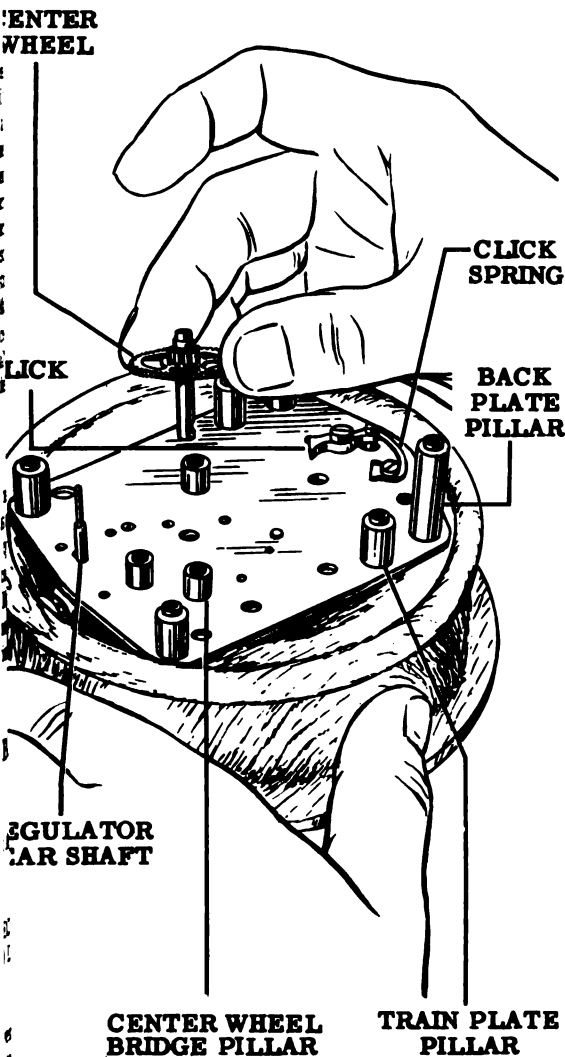
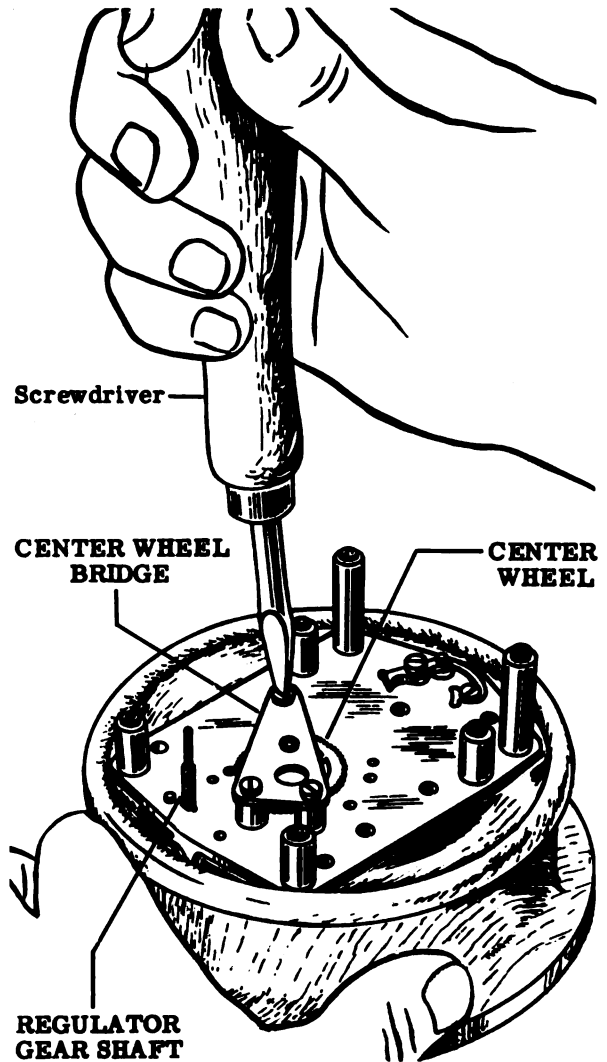

Figure 86
Figure 87
1. Place the front plate on the work block (Tool No. 1B) with the pillars facing up. Already mounted on the front plate should be the pillars, the click, the click spring, the regulator bracket, the regulator index wheel and the regulator gear. Replace any of these parts that are missing. See Fig. 86.
3. Place the center wheel in its position as shown in Fig. 86 on the front plate. Put on the center wheel bridge as shown in Fig. 87 and fasten it down with the three screws, using the special collar (Tool No. 13A) on the end of an automatic screwdriver to speed up the work and to prevent scratching of the bridge.